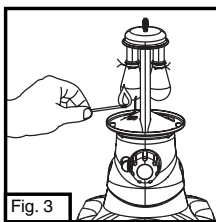

Fig. 3
- Light bottom of mantle evenly. Burn until nothing but white ash remains. Once the mantle has been burned, it is very fragile. Be careful not to touch it with finger or match. (Fig. 3, 4)